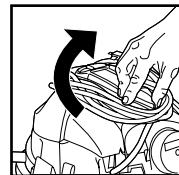

FIGURE 21
46. Grasp the sides of the rear cord wrap and turn clockwise 180° to return it to its original position. **FIGURE 21.**